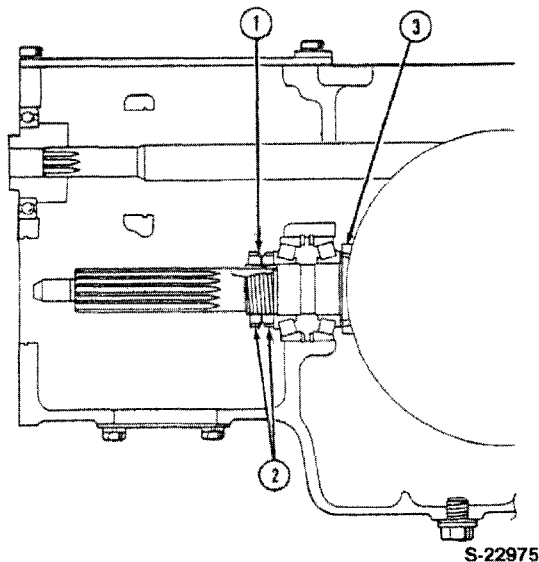

Figure 14
Reference — Figure 14
1. Straighten the lock washer tabs, Figure 14.
2. Remove the two pinion lock nuts and slide the pinion out toward the rear, Figure 14.